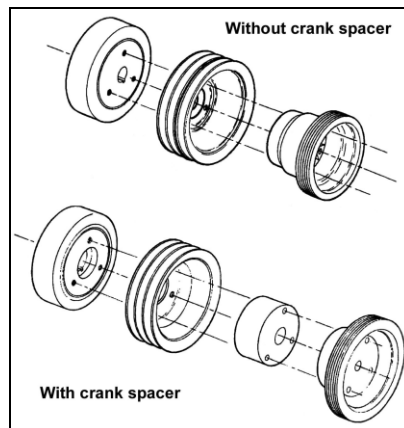

Figure 1
**STEP 1.** Remove the bolts that secure the crankshaft pulley to the damper. The center bolt from the damper must also be removed on small block Chevrolet V8s. Install the supplied supercharger drive pulley together with any spacers that are supplied with the kit inside of the stock stamped steel crankshaft pulley. Fit the pilot on the pulley or spacer into the center of the stock steel pulley, and the pilot of the drive pulley into the spacer, if there is one, and align the bolt holes. Put the supplied bolts through the pulley and spacer (if there is one) into the crankshaft. Use thread sealer on these bolts. Tighten the bolts. The small block Chevrolet kits require the removal of the center bolt that secures the harmonic balancer to the engine, but on other engines the center bolt is not removed. On small block Chevrolet kits install the supplied center bolt and tighten it to 75 ft./lbs. See Figure 1.